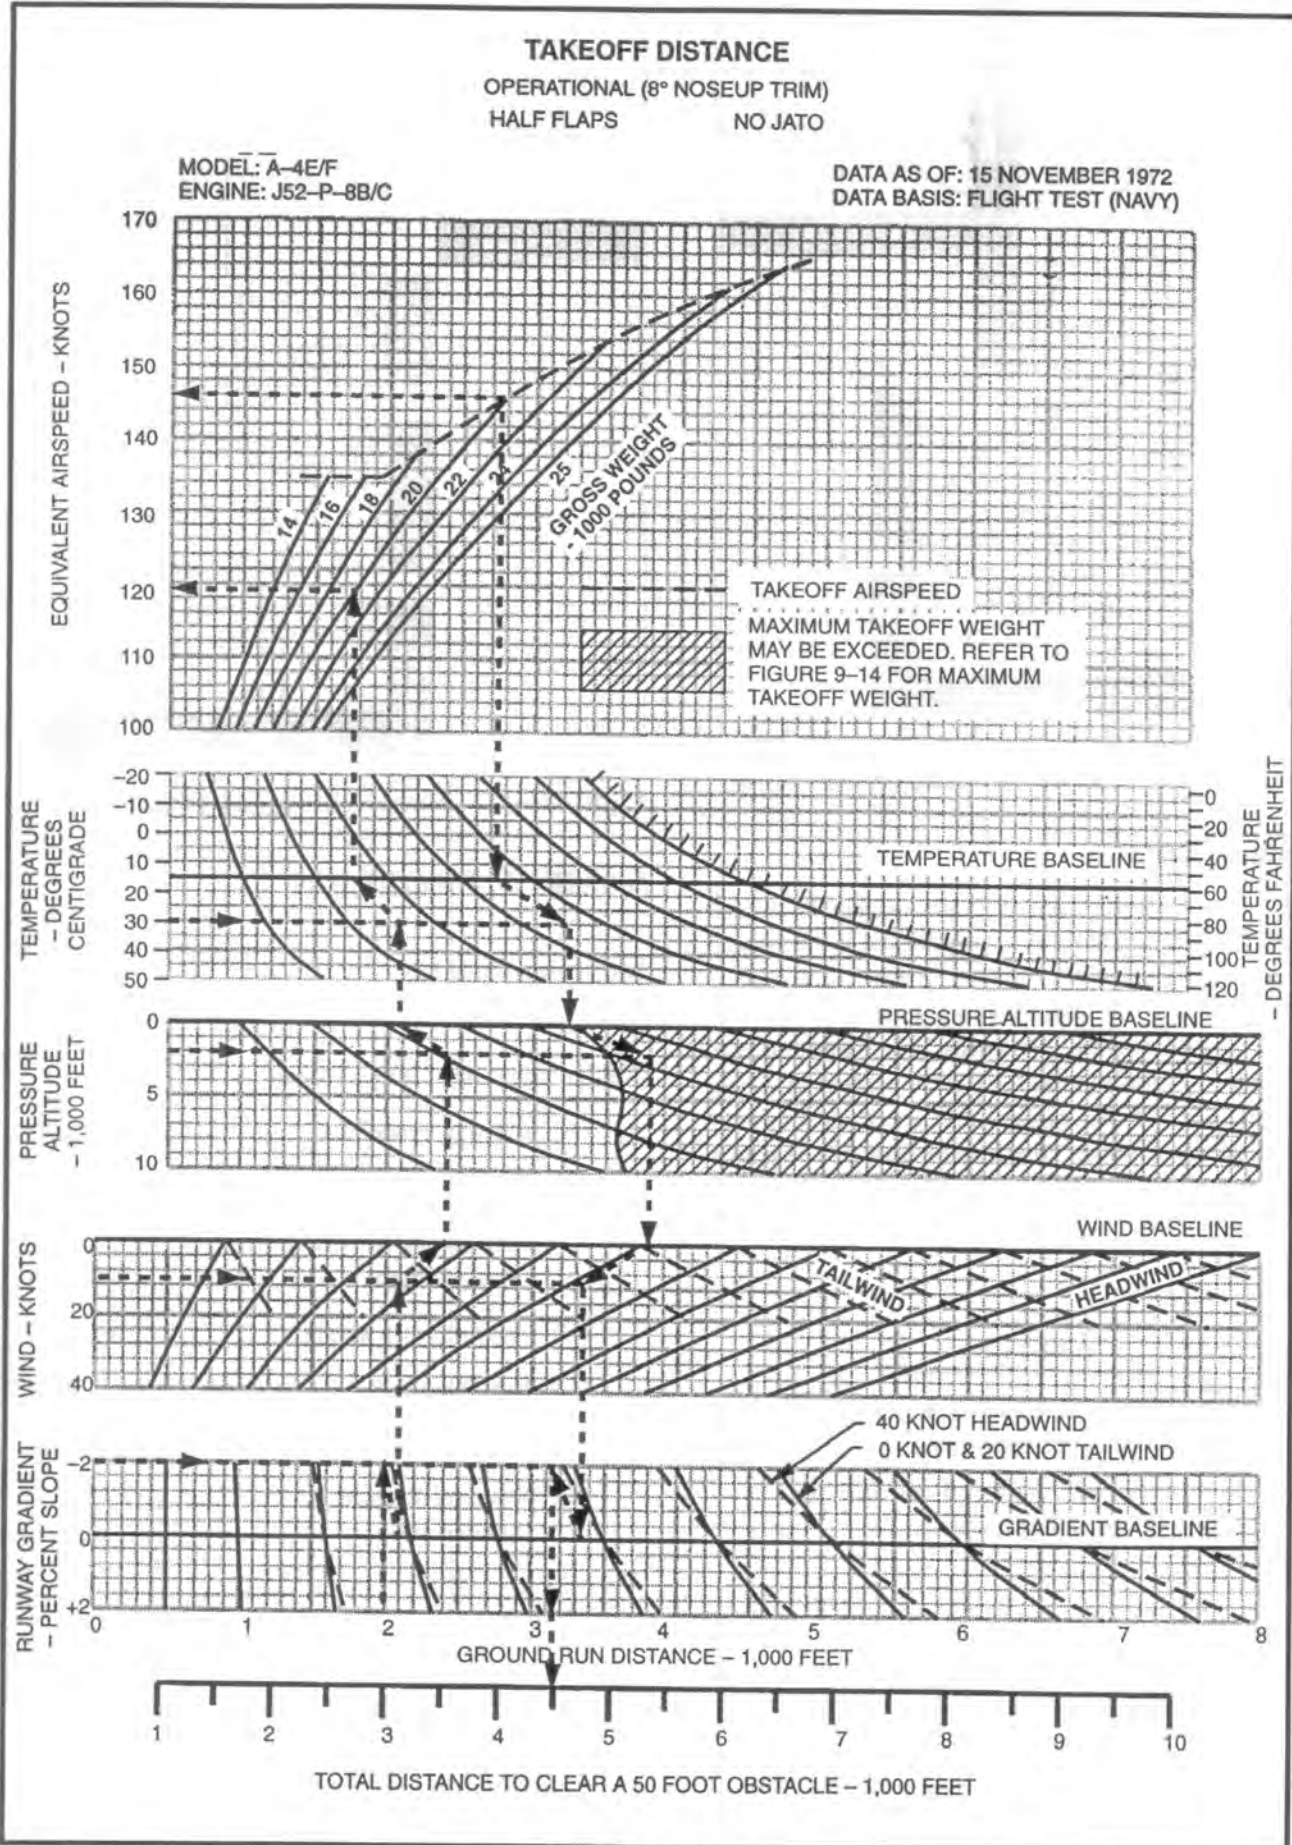

Figure 9-13 Takeoff Distance A-4
9.19 Operational takeoff distance, total distance to clear a 50-foot obstacle, without JATO assist, and recommended takeoff speeds are shown in Figure 9-13 and Figure 9-15. Takeoff distances are based on half flaps, MILITARY thrust, and 8 degrees aircraft noseup trim.
(For Figure 9-13)